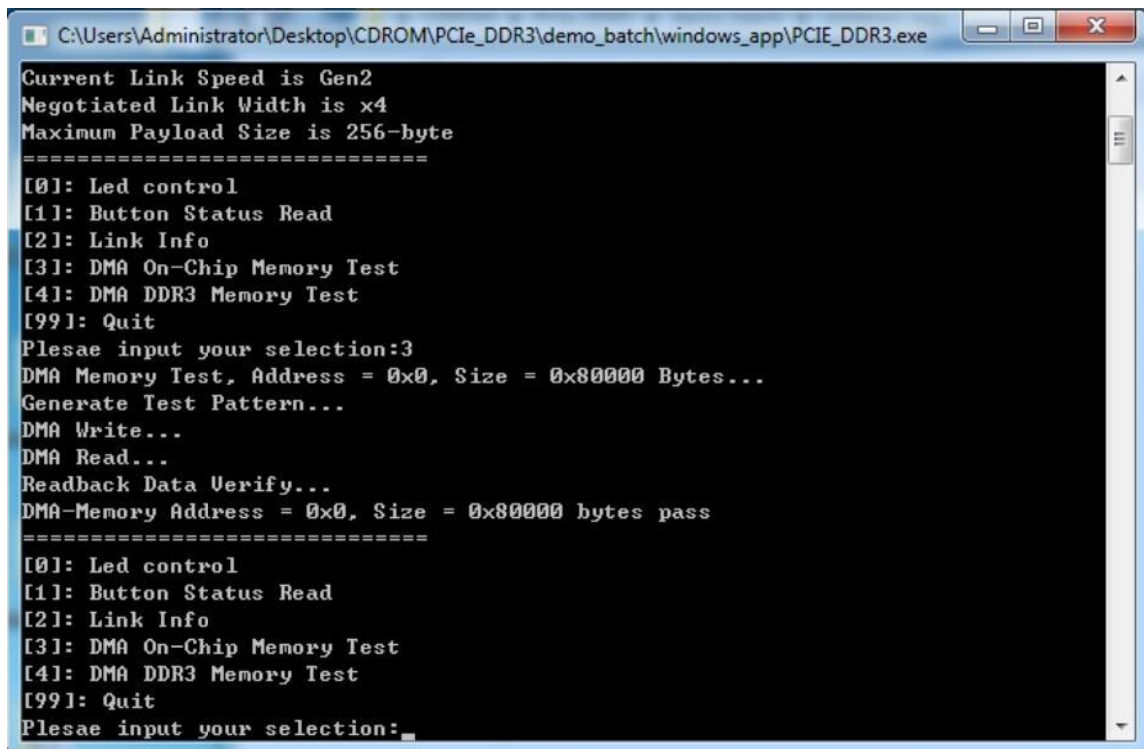

Figure 7-18 Screenshot of On-Chip Memory DMA Test Result
9. Type 3 followed by the ENTER key to select DMA On-Chip Memory Test item. The DMA write and read test result will be reported as shown in Figure 7-18.